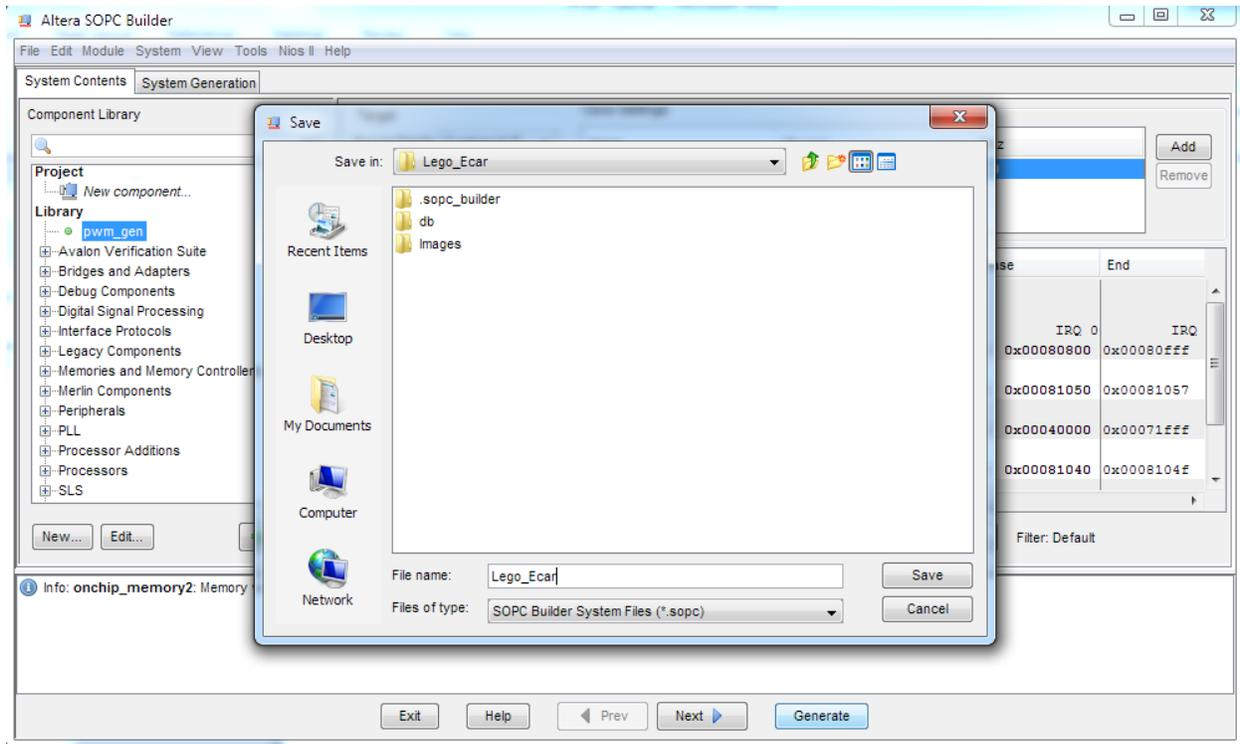
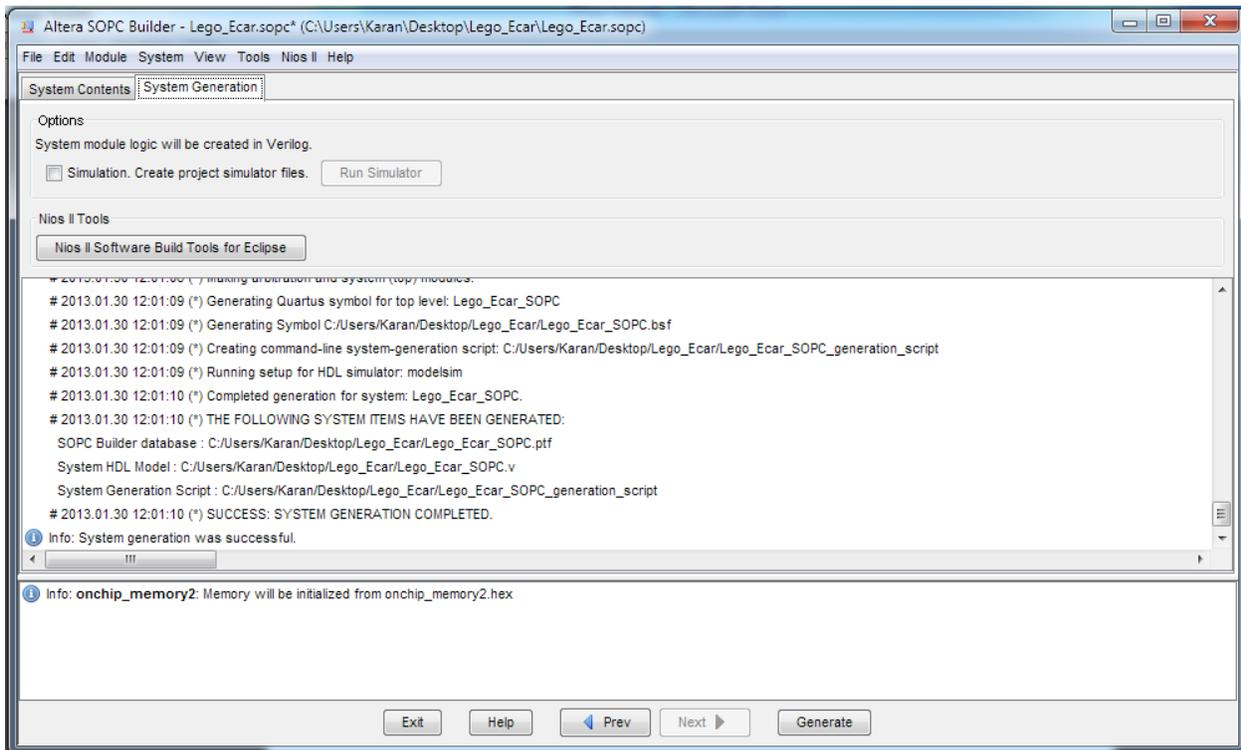

Figure 1-50 Generate SOPC
Figure 1-51 Generate SOPC Complete
31. Click **Generate** and then pop a window as shown in Figure 1-50. Click **Save** and the generation start. If there is no error in the generation, the window will show successful as shown in Figure 1-51.